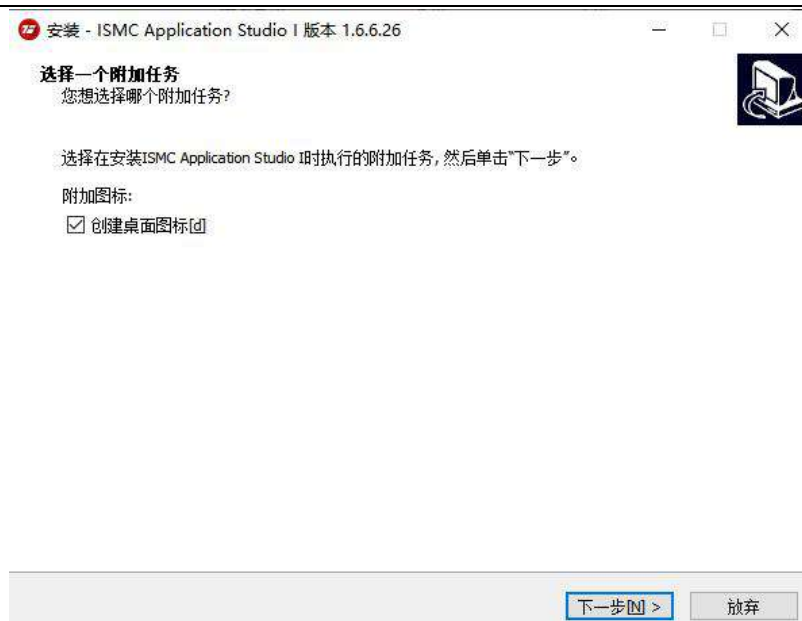

Figure 1-2 Start the installation
③Click "Next" to bring up the additional task selection interface, as shown in Figure 1-2.